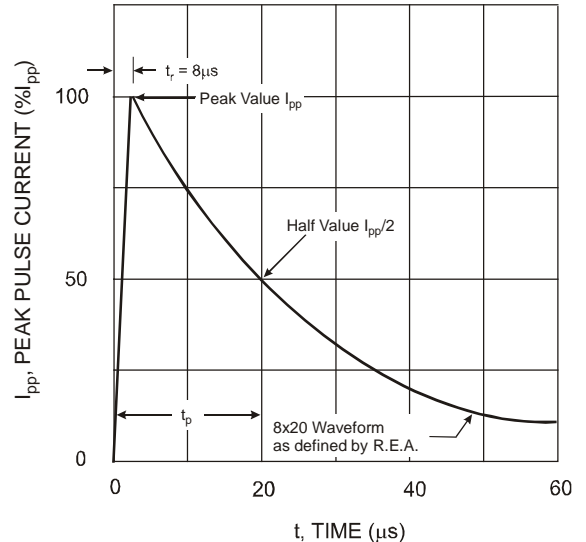

Fig. 2 Pulse Waveform
2.  $t_p = 8 \times 20 \mu s$ . See figure 2.